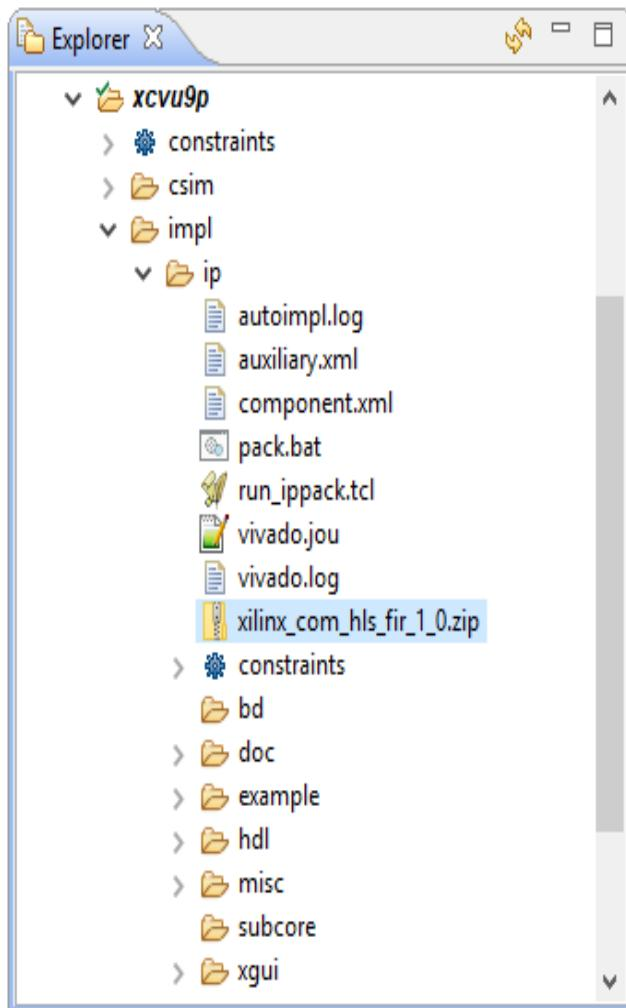

Figure 2-15: RTL Verification Results
6. Expand the **ip** folder and find the IP packaged as a zip file, ready for adding to the Vivado IP Catalog (Figure 2-15).